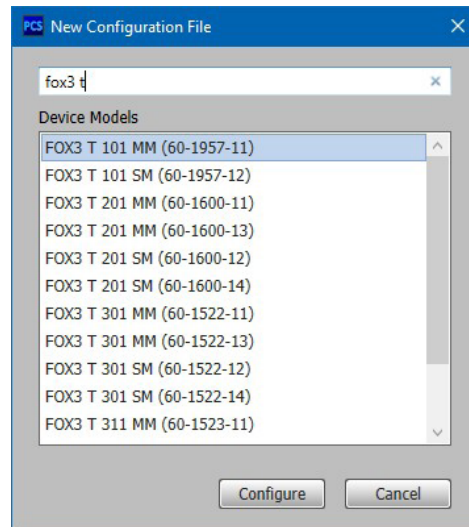

Figure 18. New Configuration File Dialog Box
Each PCS screen has a **Device** drop-down list, accessed via the tab (see figure 18, ❶), for device configuration options. The **Software** menu, accessed via the icon on the right (❷), contains software configuration and information options.